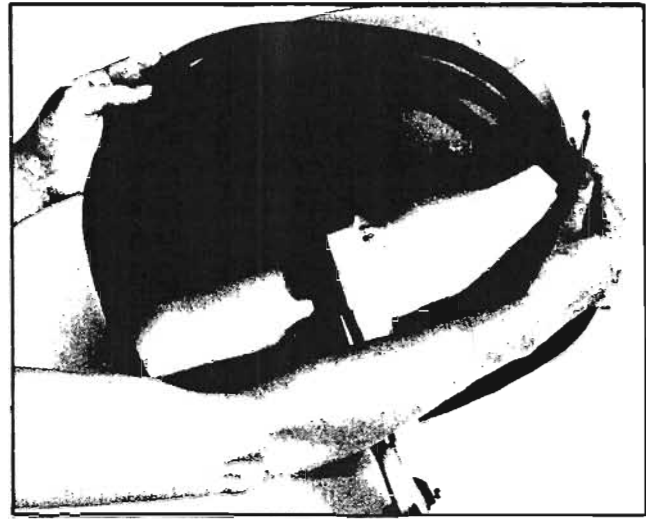

Figure 6-3. Gasket Removal
5. Inspect door gasket for cleanliness and wear. If food soil has become lodged behind the gasket or the gasket is torn, push it off perimeter of door and clean with mild detergent-water solution, or replace as needed (Figure 6-3). A gasket which is stuck to the door is easily removed by first soaking the entire door in hot soapy water.